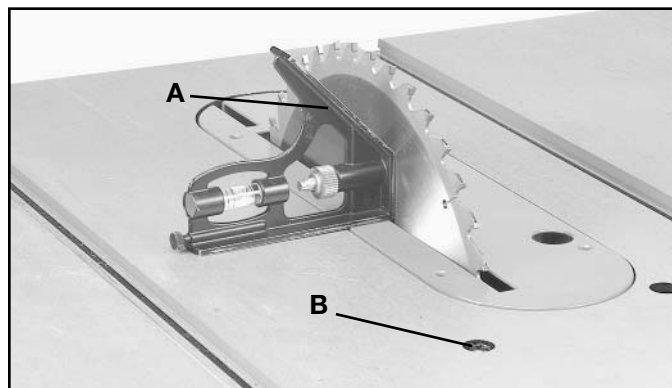

Fig. 20
5. Place a square (A) Fig. 20, on the table with one end of the square against the blade, as shown, and check to see if the blade is at 90 degrees to the table. If it is not, loosen screw (B) a few turns and move the blade tilting mechanism until the blade measures 90 degrees to the table. Then tighten blade tilting lock handle and tighten screw (B) until it bottoms. **NOTE: CHECK TO SEE IF THE TILT INDICATOR POINTER POINTS TO THE ZERO MARK ON THE SCALE. ADJUST IF NECESSARY.**